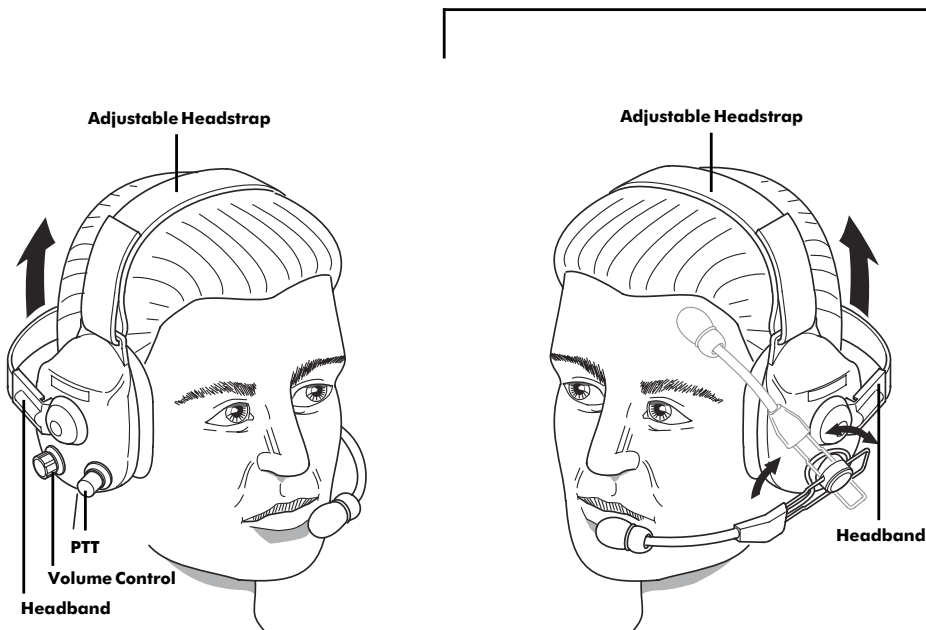

FIGURE 25:
Firecom offers many different styles of headsets for use with the 3010R Series Intercom System. Headsets are available in an Over-The-Head (Figure 24), or Under-The-Helmet (Figure 25) style. Either of these styles can be Radio-Transmit capable, or Intercom-Only.
- Under-The-Helmet (UH) style headsets (Figure 25): These headsets have an adjustable headstrap to adjust the height of the ear domes.
- Under-The-Helmet (UH) style headsets: Rotate the Mic Boom and the rear headband **ONLY** in an upward direction (Figure 25), page 23.